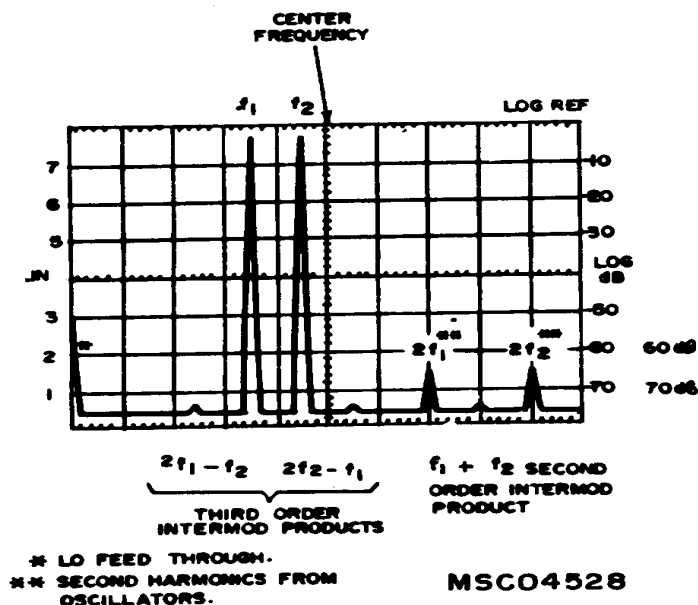

Figure 17. Intermodulation distortion products.
- (4) Adjust function generator frequency for 70 kHz at 3 mV.
- (5) Adjust signal generator frequency for 90 kHz at an amplitude equal to that set in (4) above.
(6) Carefully adjust amplitudes of function generator and signal generator so that both signal peaks are 3 dB below LOG REF graticule on display screen. The signals at 140 kHz ( $2f_1$ ) and 180 kHz ( $2f_2$ ) (fig. 17) are second order harmonics. Any second order intermodulation product (due to analyzer) will occur at 160 kHz ( $f_1 + f_2$ ). Any third order intermodulation products will occur at 50 kHz ( $2f_1 - f_2$ ) and at 110 kHz ( $2f_2 - f_1$ ). The intermodulation products should be below -70 dB graticule line.
(7) Repeat technique of (4) through (6) above with function generator at a frequency of 1.7 kHz and signal generator at a frequency of 2 kHz.
(8) Position **SCAN WIDTH PER DIVISION** switch to **500 Hz** and **PER DIVISION** switch to **30 Hz** for model 8552B or **50 Hz** for model 8552A. Set **SCAN WIDTH** to **0-10f**.
(9) Adjust function generator and signal generator controls to set both signal peaks 3 dB below LOG REF graticule on display screen. The signals at 3.4 kHz ( $2f_1$ ) and 4.0 kHz ( $2f_2$ ) are second order harmonics (fig. 17). Any second order intermodulation product (due to analyzer) will occur at 3.7 kHz ( $2f_1 - f_2$ ). Any third order intermodulation product will occur at 1.4 kHz ( $2f_1 - f_2$ ) and at 2.3 kHz ( $2f_2 - f_1$ ). All intermodulation products should be below -60 dB graticule line.